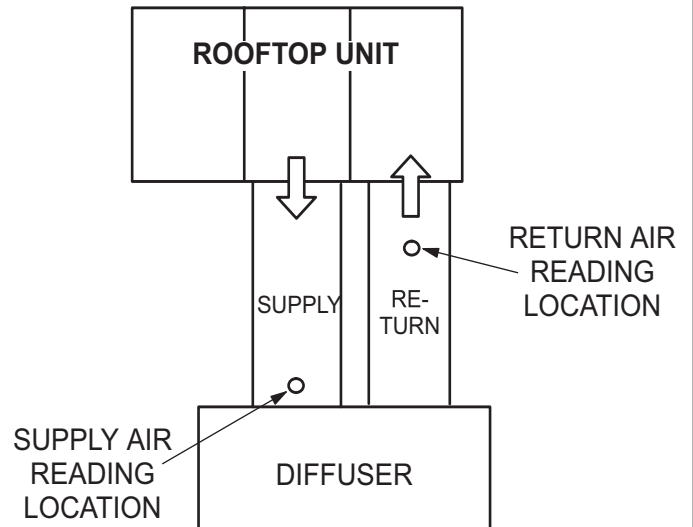

FIGURE 16
- 2 - With all access panels in place, measure static pressure external to unit (from supply to return). Add any additional air resistance for options and accessories shown in accessory air resistance tables. Blower performance data is based on static pressure readings taken in locations shown in FIGURE 16.